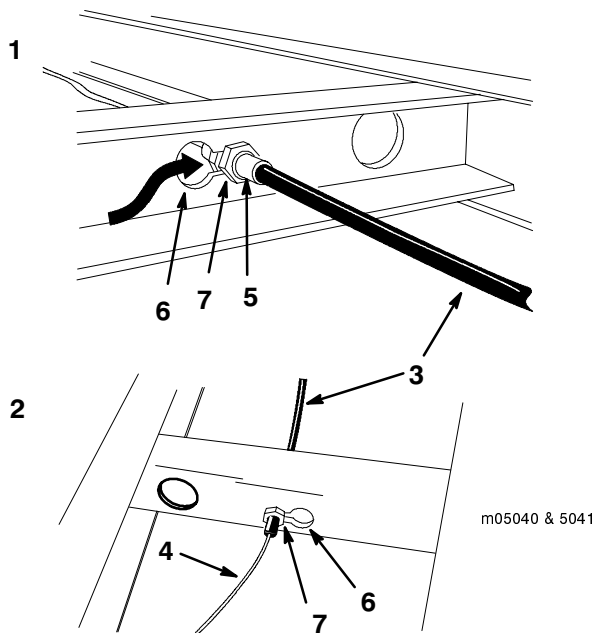

Figure 10
9. Slide the fitting through the slot and push it to the right, ensuring there is a jam nut on each side of the frame (Fig. 10).
7. Loosen the jam nuts and remove the cable from the keyhole slot in the blade frame (Fig. 10).